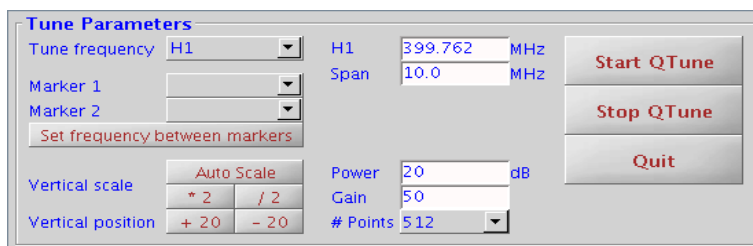

Figure 3.2: The default QTune parameter panel.
- 12) Click on **Auto Scale**. The following should appear in the Graphics Display screen (Figure 3.2).